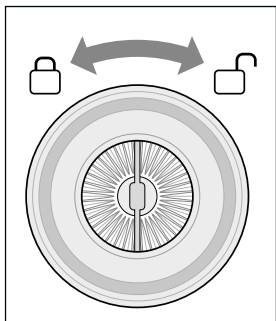

Fig. 9
2. Note the lock symbols on the lid of the dust filter **5**. Turn the dust filter **5** to the right (in the direction of the  symbol) and pull it out of the filter housing **4** (see Figs. 9 and 10).
5. Reinsert the dust filter **5** in the filter housing **4** and turn it to the left (in the direction of the  symbol) until it is seated firmly in the filter housing **4** (see Fig. 9).